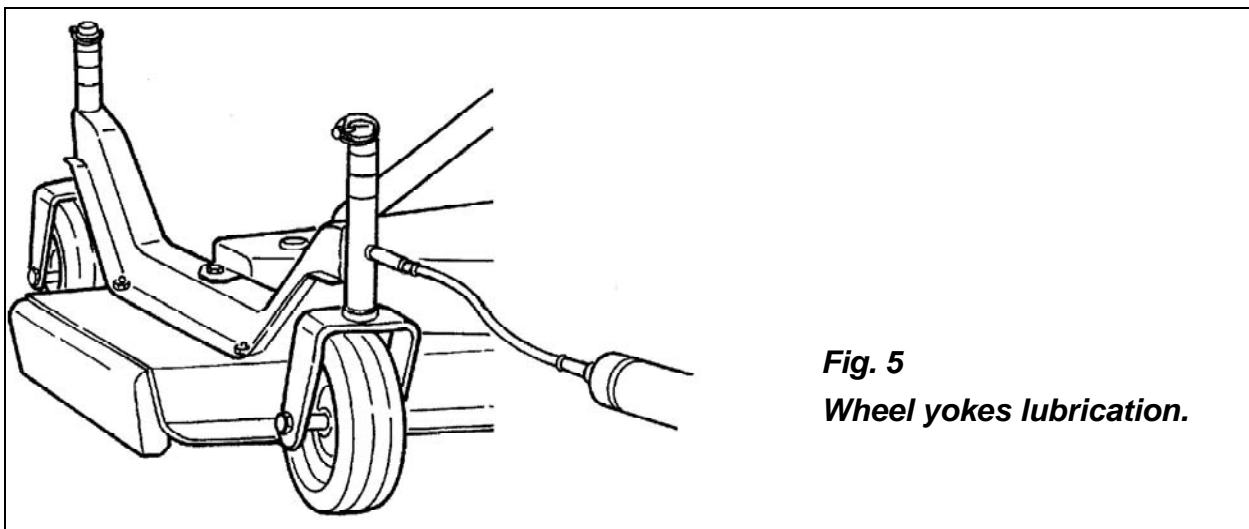

Fig. 5
1. **Lubricate the wheel yokes:** Apply two or three shots of grease to the wheel arm grease fittings (**see fig. 5**).